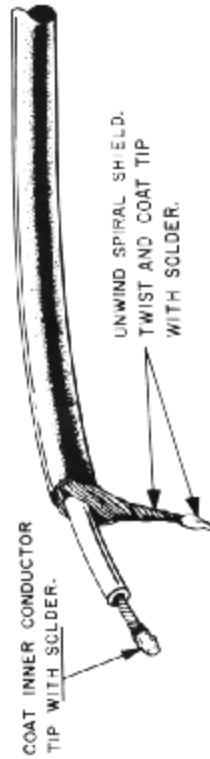

FIGURE 7
- ☑ Single conductor shielded cable. Prepare the ends as shown in Figure 7. Pass one end of the cable through the small grommet in the rear of the chassis and connect the inner conductor to terminal 2 of L-2. Slip ¾" of tubing over the shield and solder it to ground lug C on V-1.